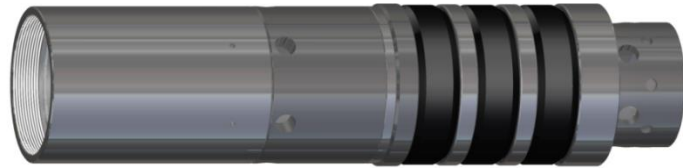

Fig. 10
K-10.2) Screw rubber mandrel (11) (of rubber mandrel assembly) into seal retainer (19) (of by-pass housing assembly). Hand-tighten until rubber mandrel (11) makes contact with o-ring (40) (Fig. 10).